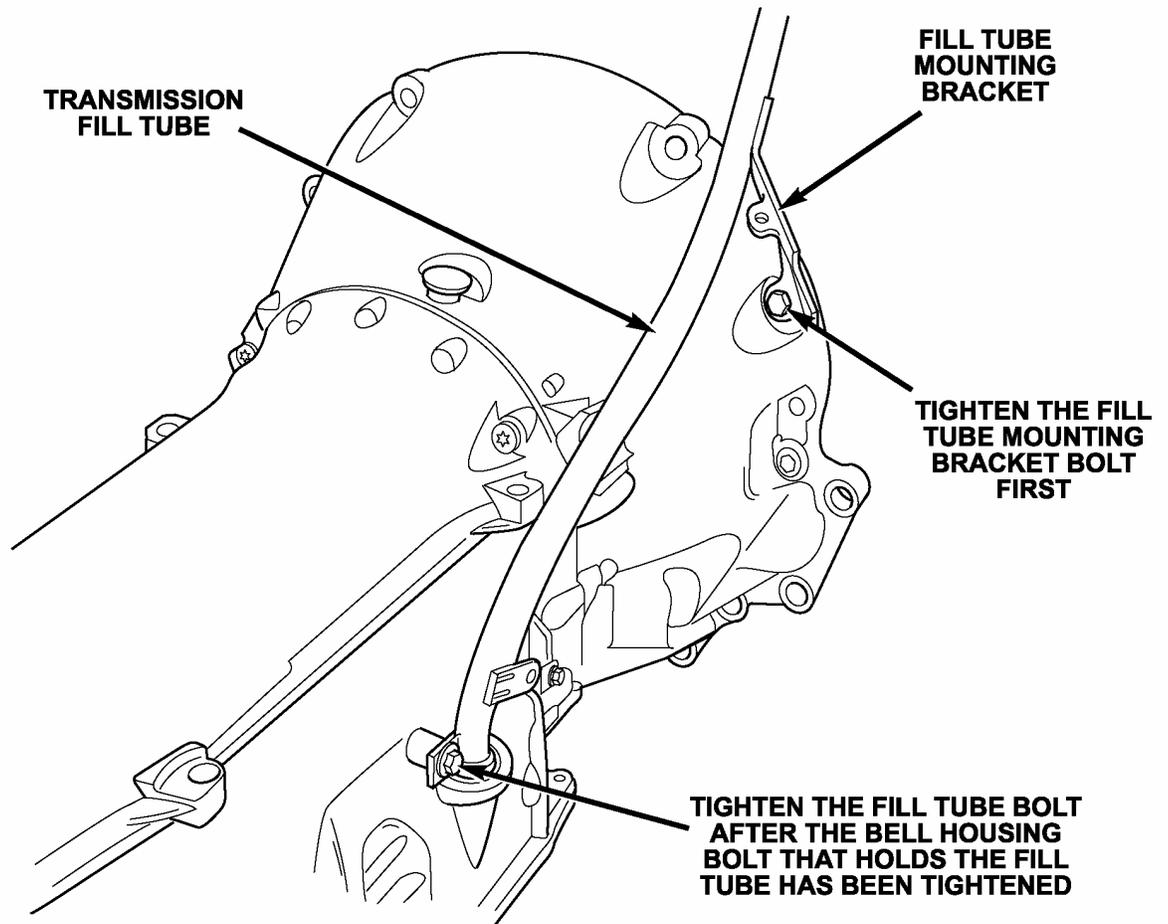

Figure 21
10. Tighten the fill tube fastener at the bellhousing to 29 ft. lbs. (39 N·m) (Figure 21).